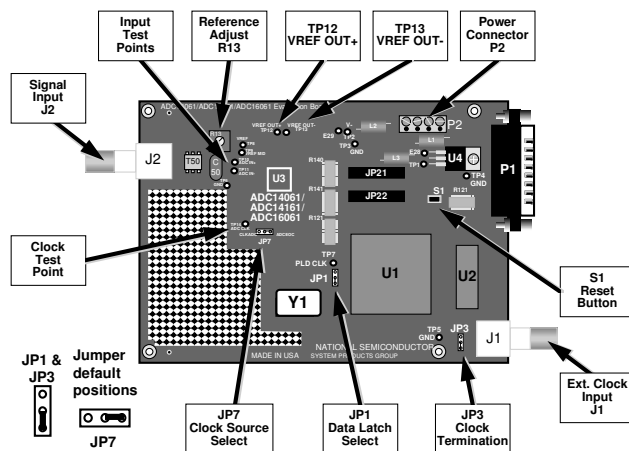

Figure 1. Component and Test Point Locations
1. Unless the ADC14061 Evaluation Board has been pre-assembled, it needs to be assembled before operation. Refer to Figure 1 for the location of major components on the board. Refer to section 9.0 for the bill of materials.
Refer to Figure 1 for locations of connectors, test points and jumpers on the board.
Refer to Figure 1 for locations of connectors, test points and jumpers on the board. If at any point the expected response is not obtained, see section 4.2.4 on Troubleshooting.